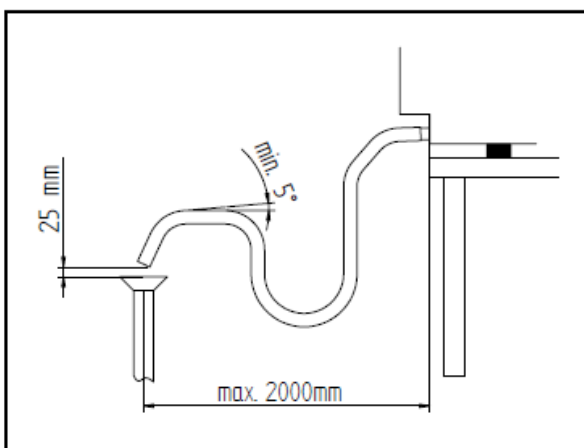

FIG. 1
**Water drainage** - A drain pipe (see Fig. 1) comes out from the rear of the appliance, to drain the oven cavity. This pipe must be connected up to a pipe made to resist steam temperatures (90°C-100°C) with an internal diameter of 30 mm (DN 30). To prevent choking, it is best to use a rigid pipe and make sure there are no "elbow" bends anywhere along the drain line.